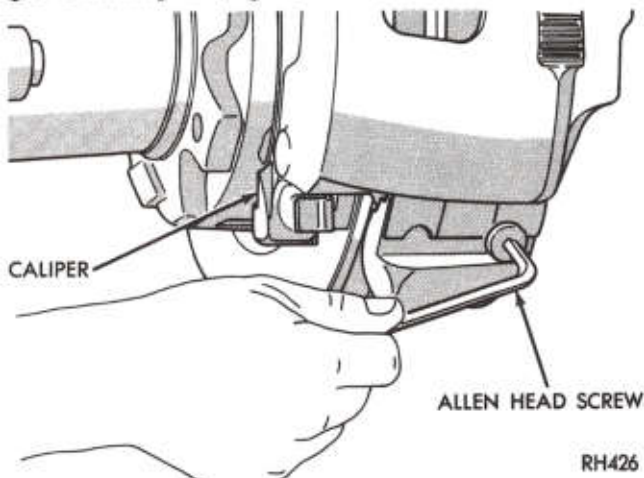

Fig. 2—Removing or Installing (Allen Head) Key Retaining Screw
- (1) Block brake pedal in the up position.
- (2) Raise vehicle to a comfortable working height and install jack stands.
- (3) Remove wheel and tire assembly.
- (4) Remove key retaining allen screw holding caliper to adapter (Fig. 2).